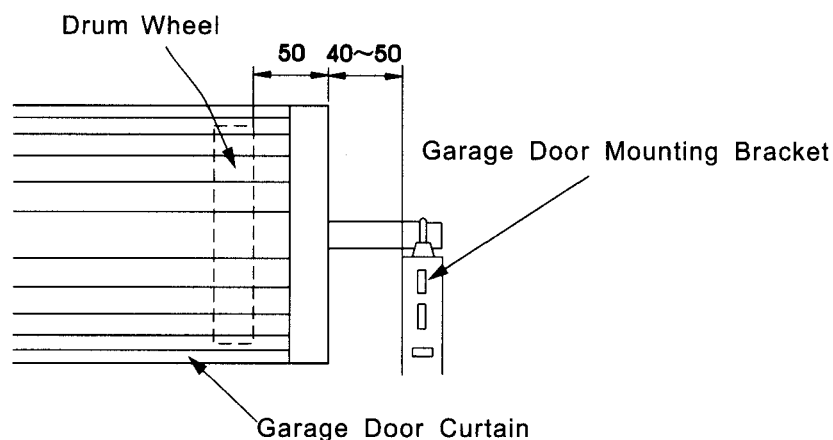

Fig 3
The recommended maximum and minimum mounting positions are depicted in Fig.3. The ideal distance should be between 40 ~ 50mm as measured from the outer edge of the garage door curtain to the inner edge of the garage door mounting bracket as indicated.
- 1.2 Ensure that the garage door mounting bracket (on the end of the door to which the AGDO will be installed) is the correct distance from the edge of the garage door curtain before attempting the installation. (Refer Fig.3)